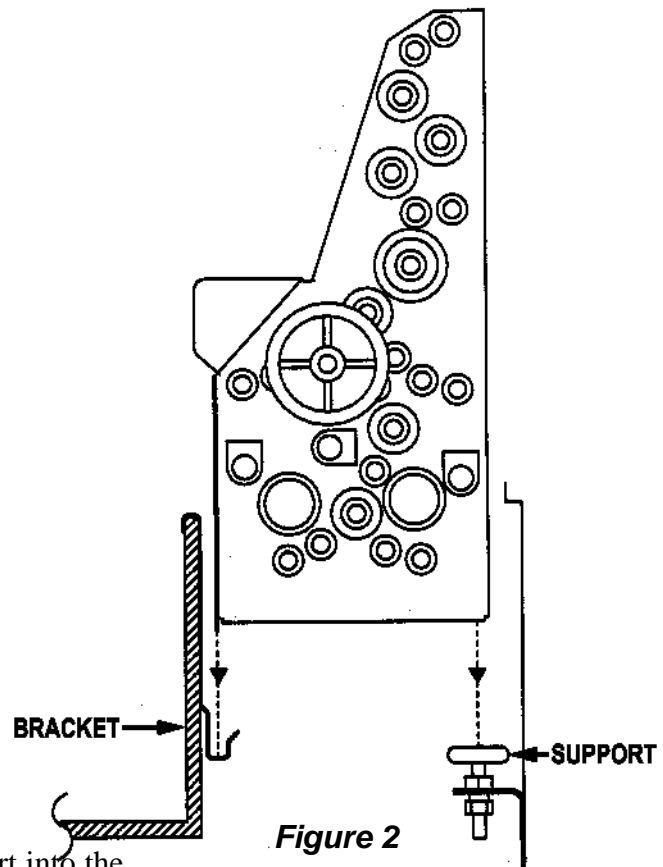

Figure 2
2. Install the dryer transport by lowering it into the opening behind the wash tank. Place securely onto the bracket in front of the transport (the back of the wash tank wall) and onto the support behind the transport (on the chassis). (See Figure 2) When installed, the main drive gear is engaged with the rearmost worm on the drive shaft. Be careful not to dislodge the dryer air tubes from the dryer side panels.